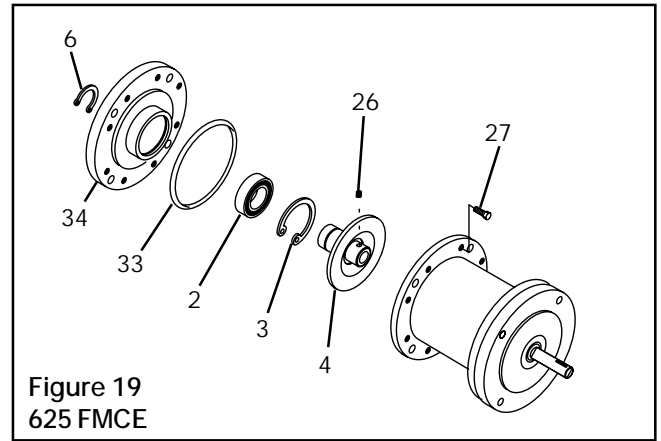
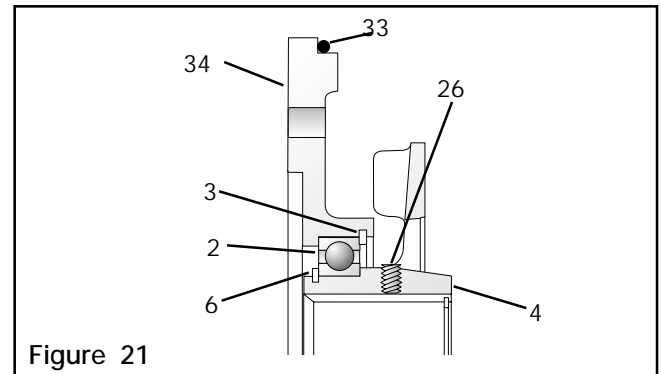

Figure 19
Figure 21
1. Remove the Retaining Ring (Item 6) from the Drive Disc (Item 4) (See Figure 19 for Model 625 FMCE or 20 for Model 875 FMCE, and Figure 21).
2. Fully supporting the Female Pilot (Item 34), press the Drive Disc (Item 4) out of the Female Pilot (Item 34) (See Figure 19 for Model 625 FMCE or 20 for Model 875 FMCE, and Figure 21).
3. Remove the Retaining Ring (Item 3) from the Female Pilot (Item 34) (See Figure 19 for Model 625 FMCE or 20 for Model 875 FMCE, and Figure 21).
4. Press the old Bearing (Item 2) out of the Female Pilot (Item 34) (See Figure 19 for Model 625 FMCE or 20 for Model 875 FMCE, and Figure 21).
5. Clean the bearing bore of the Female Pilot (Item 34) with fresh safety solvent, making sure all old Loctite® residue is removed; then, apply an adequate amount of Loctite® 680 to evenly coat the outer race of the new Bearing (Item 2) (See Figure 19 for Model 625 FMCE or 20 for Model 875 FMCE, and Figure 21).
6. Fully supporting the Female Pilot (Item 34) and pressing on the outer bearing race, press the new Bearing (Item 2) into the Female Pilot (See Figure 19 for Model 625 FMCE or 20 for Model 875 FMCE, and Figure 21).
7. Install the Retaining Ring (Item 3) into the Female Pilot (Item 34) (See Figure 19 for Model 625 FMCE or 20 for Model 875 FMCE, and Figure 21).
8. Fully supporting the inner race of Bearing (Item 2), press the Drive Disc (Item 4) into the Bearing and Female Pilot (See Figure 19 for Model 625 FMCE or 20 for Model 875 FMCE, and Figure 21).
9. Reinstall the Retaining Ring (Item 6) onto the Drive Disc (Item 4) (See Figure 19 for Model 625 FMCE or 20 for Model 875 FMCE, and Figure 21).
12. Coat the new O-ring Seal (Item 33) with fresh O-ring lubricant and place the new O-ring onto the Female Pilot (See Figure 19 for Model 625 FMCE or 20 for Model 875 FMCE).
13. Secure the Female Pilot Assembly to the Housing with the eight Hex. Head Cap Screws (Item 27) (See Figure 19 for Model 625 FMCE or 20 for Model 875 FMCE).